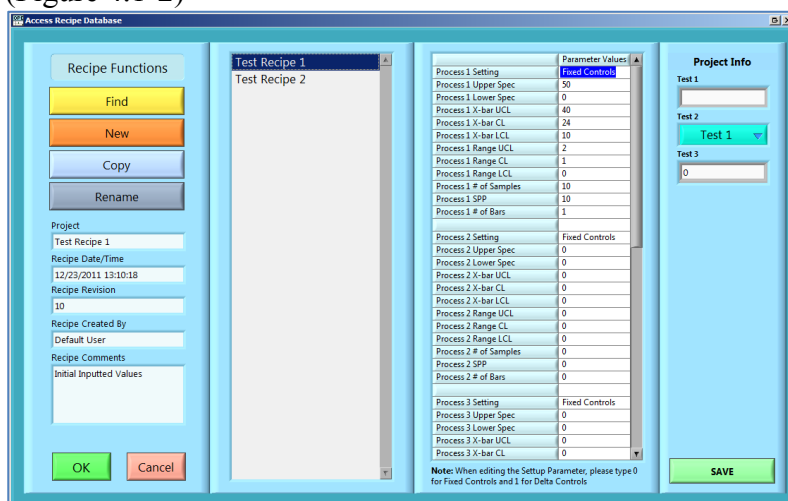

Figure 4.1-2: The Access Recipe Database Window: The "Test" recipe is currently selected.
3. Click the **Access Database** button. The **Access Recipe Database** window will appear. (Figure 4.1-2)
1. Click the **Find** button on the **Access Recipe Database** window. (Figure 4.1-2) The **Enter Recipe** popup will appear.
1. Click the **New** button on the **Access Recipe Database** window. (Figure 4.1-2) The **Create New Recipe** popup will appear.
2. Click the **Copy** button on the **Access Recipe Database** window. (Figure 4.1-2) **Enter New Recipe Name** popup will appear.
2. Click the **Rename** button on the **Access Recipe Database** window. (Figure 4.1-2) The **Enter Recipe Name** popup will appear.